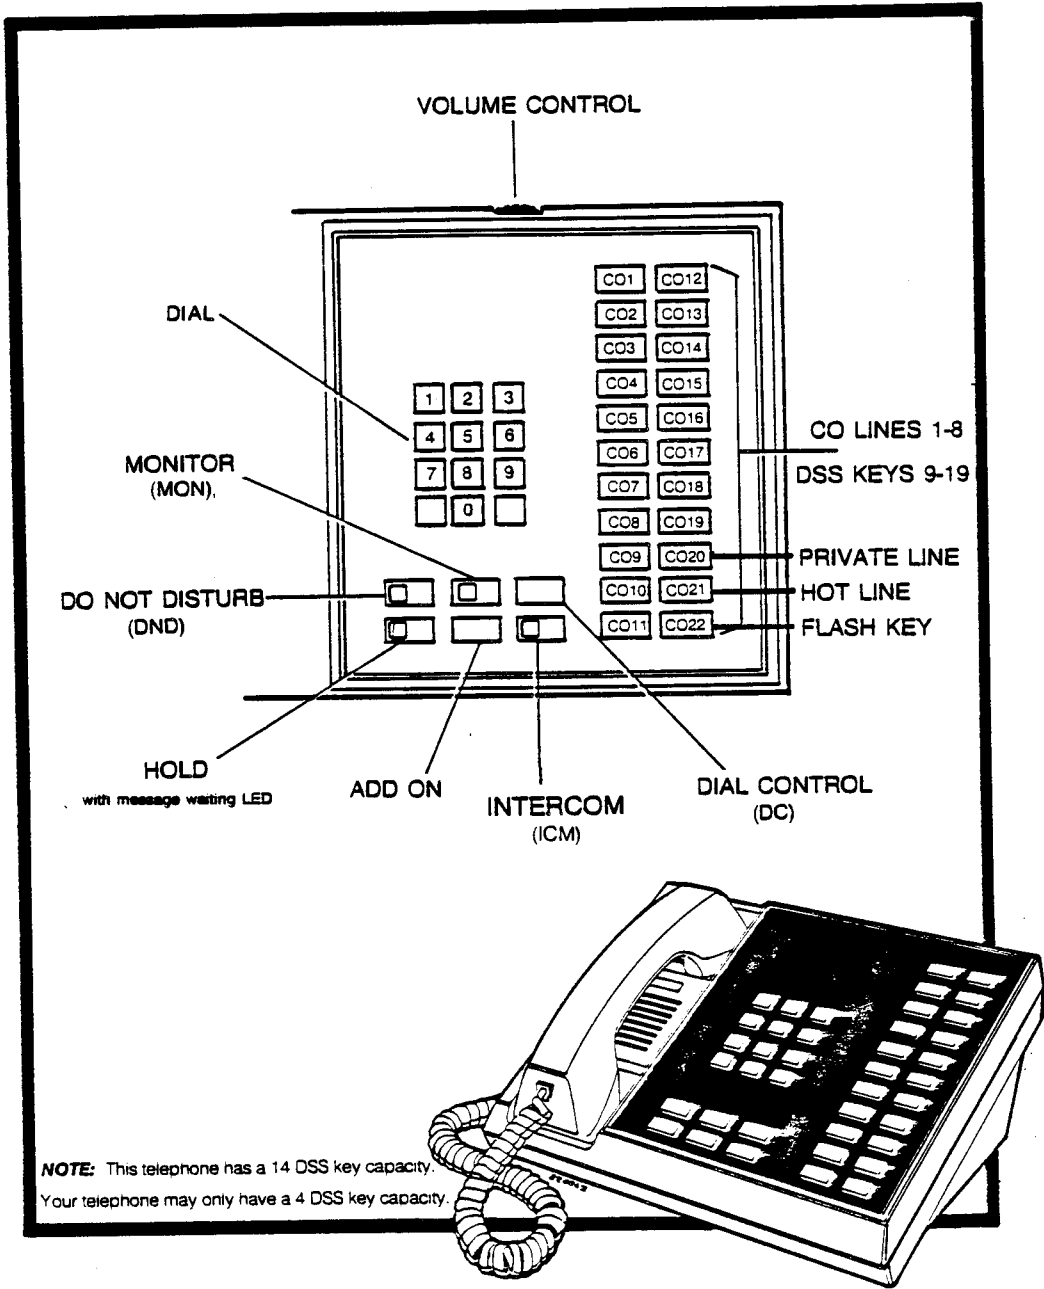

Figure 2-1 TC-22 ELECTRONIC KEY TELEPHONE
2.02 Key telephones include the TC-12, TC-22 and the TC-22 Power Failure Telephone (Figure 2-1). These telephones contain a loudspeaker for tone signaling and a microphone for Handsfree (HF) Answerback during intercom calls. In addition to the standard dial pad, there are keys that provide access to CO lines, system and station features, and special functions. Various keys are equipped with an LED to indicate the status of the call or feature. Visual and audible signals provide various tone and flash patterns that distinguish outside, Intercom (ICM) and paging calls (Tables 2-1 and 2-2). A volume control adjusts the loudspeaker and music/paging volume. The TC-22 Power Failure Telephone provides circuitry required for power failure operation and is available in two configurations. The TC-22 Power Failure Tone (PFT) Telephone is used during a power failure in systems requiring DTMF signaling. The TC-22 Power Failure Pulse (PFP) Telephone is used during a power failure in systems requiring pulse signaling.